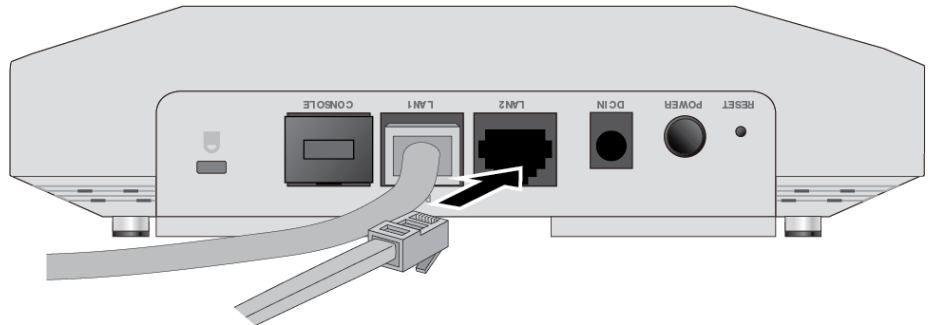

Figure 22. Connecting the Ethernet Cable to the LAN2 Port
- b. Connect a second Ethernet cable into the LAN2 port. Refer to Figure 22.